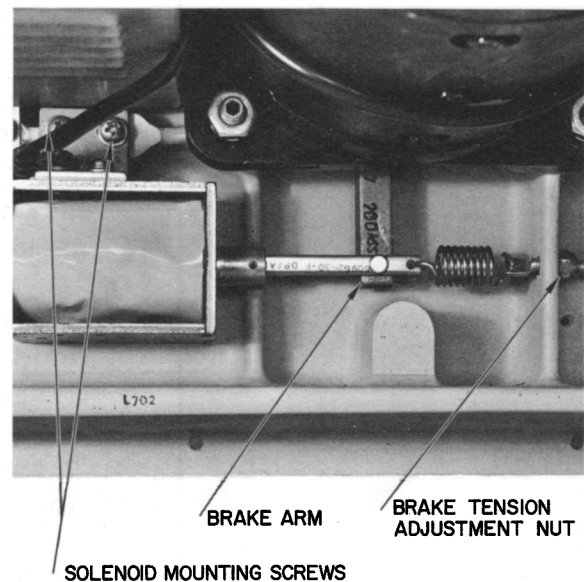

Figure 7-19
- Step 3: If the difference in positions is incorrect, loosen the two screws which hold the brake solenoid (Figure 7-19) and move the solenoid to a new position. Repeat steps 1 and 2.
Step 4: Connect a spring balance to the brake solenoid arm and check brake tension, which should be 7 lbs. plus or minus 1/2 lb. If spring tension is not within tolerance, loosen or tighten the tensioning nut on the spade bolt to which the spring is attached. (Figure 7-19)